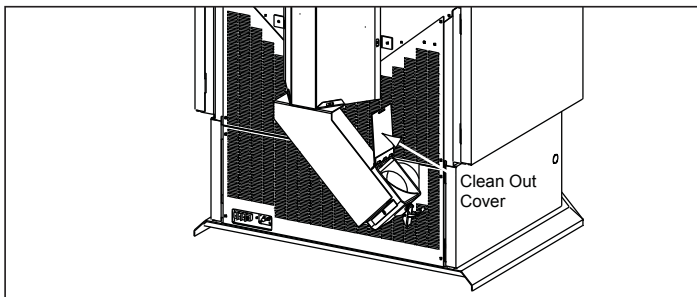

Figure 32.1
- b. Open the clean-out cover. **See Figure 32.1.**